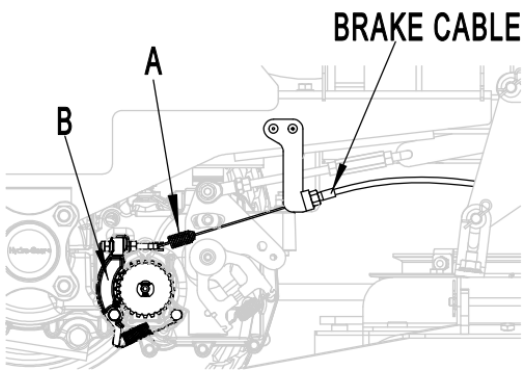
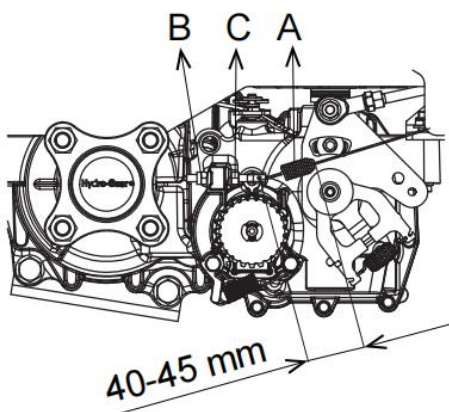

Fig. 24
Fig. 25
- Locate the brake spring (A, Fig. 24).
- Place both steering levers in swing-out (neutral position). Gears in the brake arm(B) meshed into the gears of the brake disk.
- Measure the length of the spring with the parking brake engaged. If the spring is not within this range, release the parking brake and turn the adjustment nuts (B and C, Fig. 25) to compress or release the spring.